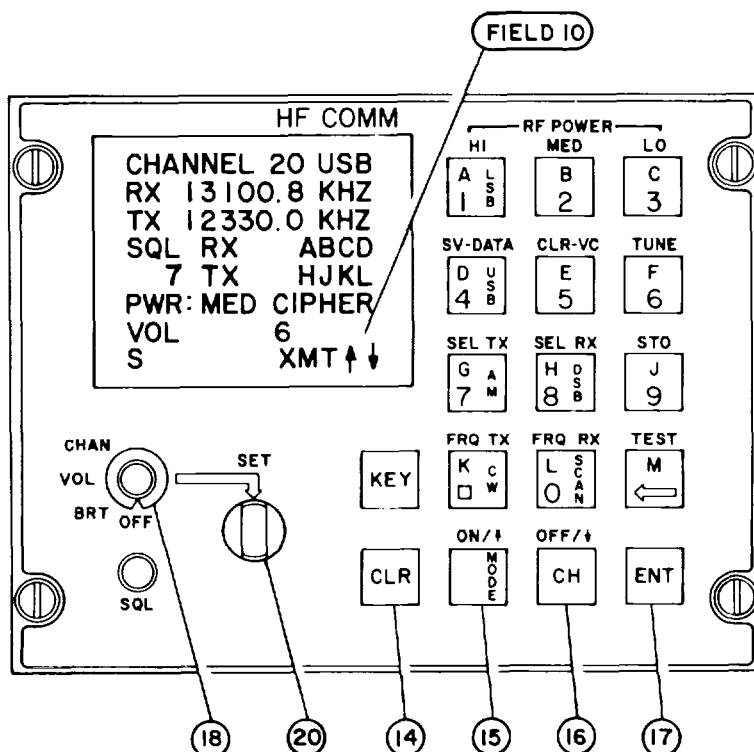

Figure 2-20. C-11245/U Channel Selection, Controls and Indicators
a. **Channel Selection.** Refer to figure 2-20. There are three methods to choose from when selecting the channel. The channel selected appears on the top line of the data displayed on the CRT screen.
- (1) **Manual tuning.** Turn the function select knob (18) to CHAN. Rotate the SET knob (20) in a clockwise direction to set the channel number to a higher numbered channel, or counterclockwise to set it to a lower numbered channel.